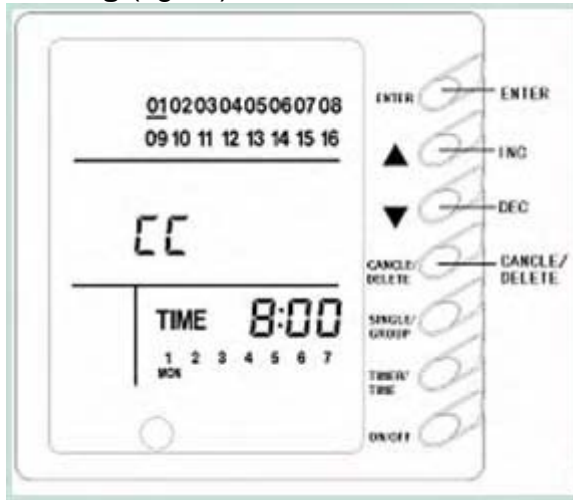

Fig.17.
5.6 Key-lock Setting (fig.17)
E.g.:In fig 17, unit 1 is key-locked. The other units are not activated the key-lock function.